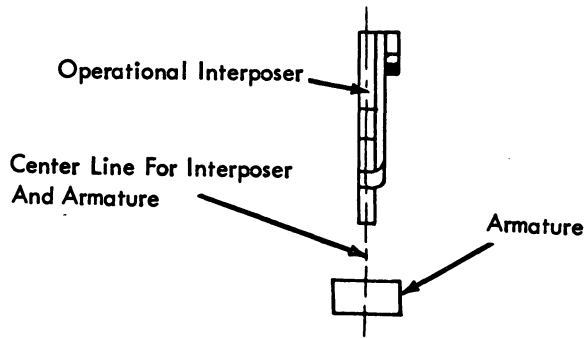

FIGURE 170. Left To Right
- a. Left to Right - so that the armatures are directly beneath their corresponding interposers (Fig. 170).